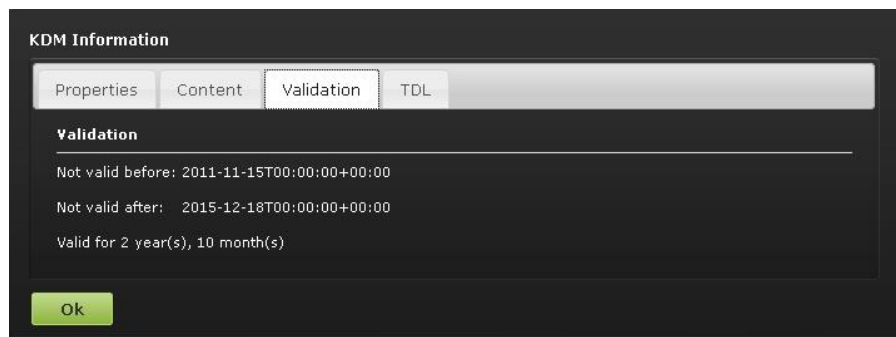

Figure 295: Validation Tab
- The Validation tab (Figure 295) contains precise information about the date and time of the validity of the KDM, an approximation of the period for which the KDM is valid.
- Click Ok to return to the CPL Properties window (Figure 295).